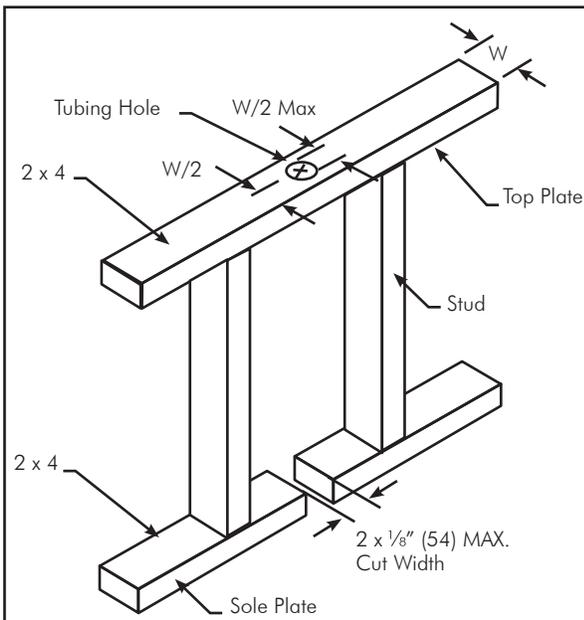

FIG. 4-6 Holes and Cuts in Top and Sole Plates
- In locations where DIAMONDBACK™ is installed through bored holes in joists, rafters, or wood members, holes shall be bored so that the edge of the hole is not less than 2" (51) from the nearest edge of the wood member. Where the distance cannot be maintained at any point, the tubing shall be protected by a DIAMONDBACK™ striker plate of the appropriate length and width installed in accordance with the striker plate instructions in this manual. The diameter of the bored holes shall be a minimum of ½" (13) larger than the outside diameter of the tubing jacket unless the hole size is in conflict with local building codes which shall prevail.
- The size of the hole drilled through **top plates, top frame members, and sole plates**, to allow the vertical passage of the tubing, shall not exceed ½ of the width of the member. The hole should be bored through the center of the member (See **FIG. 4-6 below**).
- Where sole plates are cut for tubing, the width of the cut shall be ½" (13) larger than the outside diameter of the tubing jacket but not greater than 2 ⅛" (54), and the tubing must be protected with a DIAMONDBACK™ striker plate of the appropriate length and width installed in accordance with this manual (See **FIG. 4-6**).